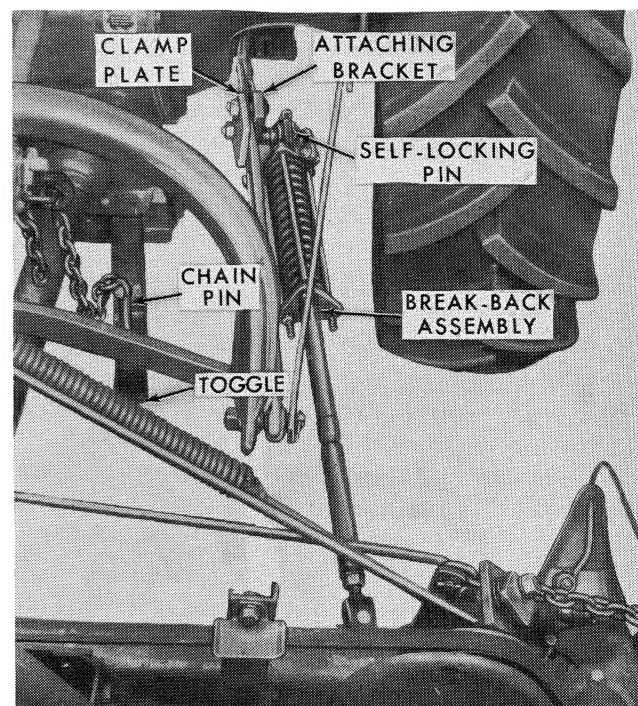

Figure 5
6. Install the breakback attaching bracket as far forward as possible on the tractor right lower link as shown in Figure 5, with the two carriage bolts and nuts holding the bracket and clamp plate together.
7. Attach the breakback assembly to the link pin on the attaching bracket, as shown in Figure 5. Secure with the self-locking pin.
10. Insert the chain pin, Figure 5, in the tractor drawbar and secure with the toggle in the lower end of the pin.
3. Remove the chain pin, Figure 5, from the drawbar by aligning the toggle with the pin.
5. Disconnect the breakback assembly, Figure 5, from its attaching bracket by removing the self-locking pin and sliding the breakback assembly off the link pin.